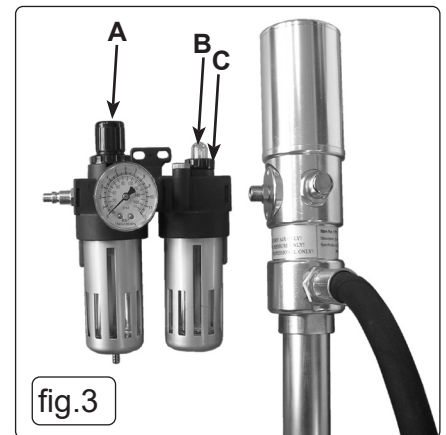

fig.3
4.2. PUMP AND AIR REGULATOR/LUBRICATOR ASSEMBLY (FIG.3).
- 3.2.1. Apply a small amount of liquid thread sealant onto the threads of the air inlet of the pump and attach the air regulator/lubricator (fig.3).